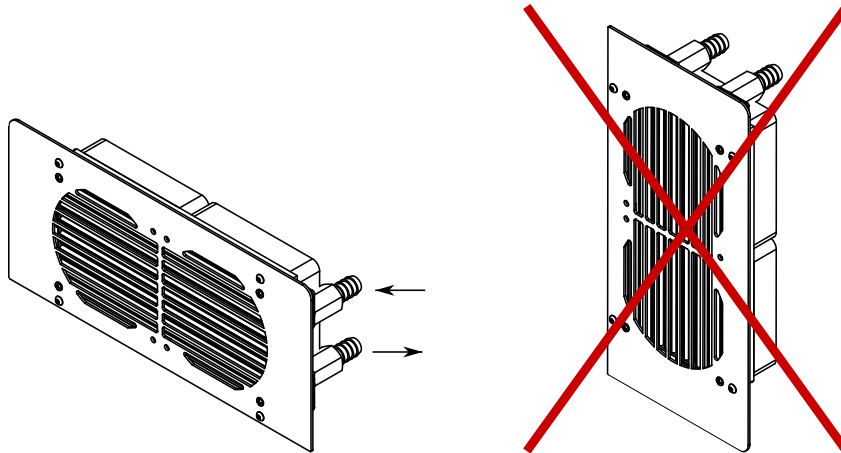

Fig. 1 - Installation positions
- CHX matrix can be installed only horizontally. Hot liquid supply hose must be connected to the upper outlet of the radiator core to ensure proper circulation (*see Fig. 1*).